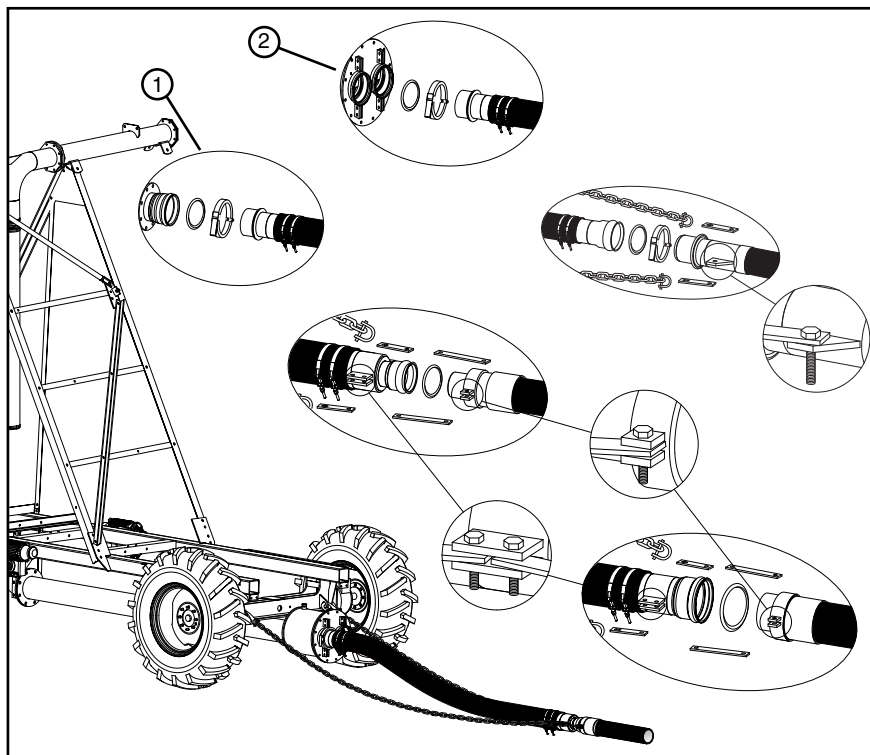

Figure 48-2 Center Inlet Hose Couplers, Soft hose and Chains
- Center inlet hose couplers are secured to the inlet with a circle lock ring. See Figure 48-2.
- The center inlet uses soft hose on the inlet end of the hose. See Figure 48-2.
- Soft hose requires the use of chains to pull the poly hose. See Figure 48-2.
- There are two types of center inlet. Single inlet for 8 inch hose or double inlet for all other sizes of hose. See Figure 48-2.